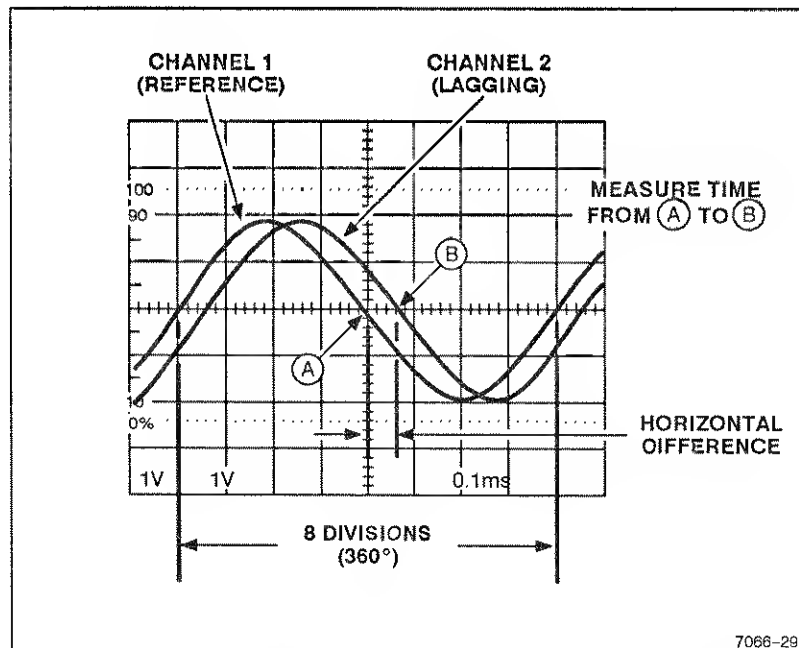
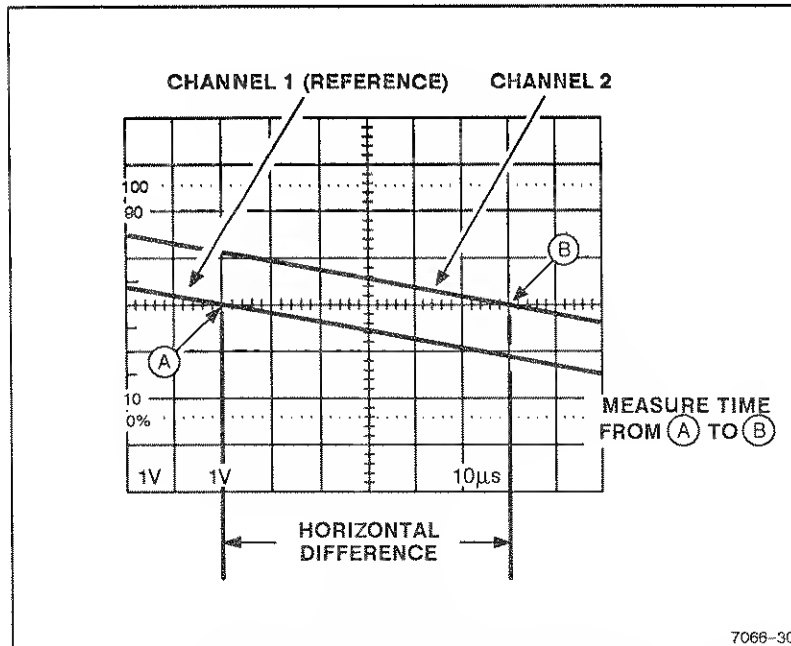

Figure 6-8. Phase difference.
Figure 6-9. High-resolution phase difference.
9. Position the displays and adjust the SEC/DIV Variable control so that one reference-signal cycle occupies exactly eight horizontal graticule divisions at the 50% rise-time points (see Figure 6-8). Each division of the graticule now represents 45° of the cycle ($360^\circ \div 8$ divisions), and the horizontal graticule calibration can be stated as 45° per division.
EXAMPLE: The horizontal difference is 0.6 division with a graticule calibration of 45° per division as shown in Figure 6-8.
EXAMPLE: If the sweep speed were increased 10 times with the magnifier (X10 Magnifier out), the magnified horizontal graticule calibration would be $45^\circ/\text{division}$ divided by 10 (or $4.5^\circ/\text{division}$). Figure 6-9 shows the same signals illustrated in Figure 6-8, but magnifying the displays results in a horizontal difference of 6 divisions between the two signals.